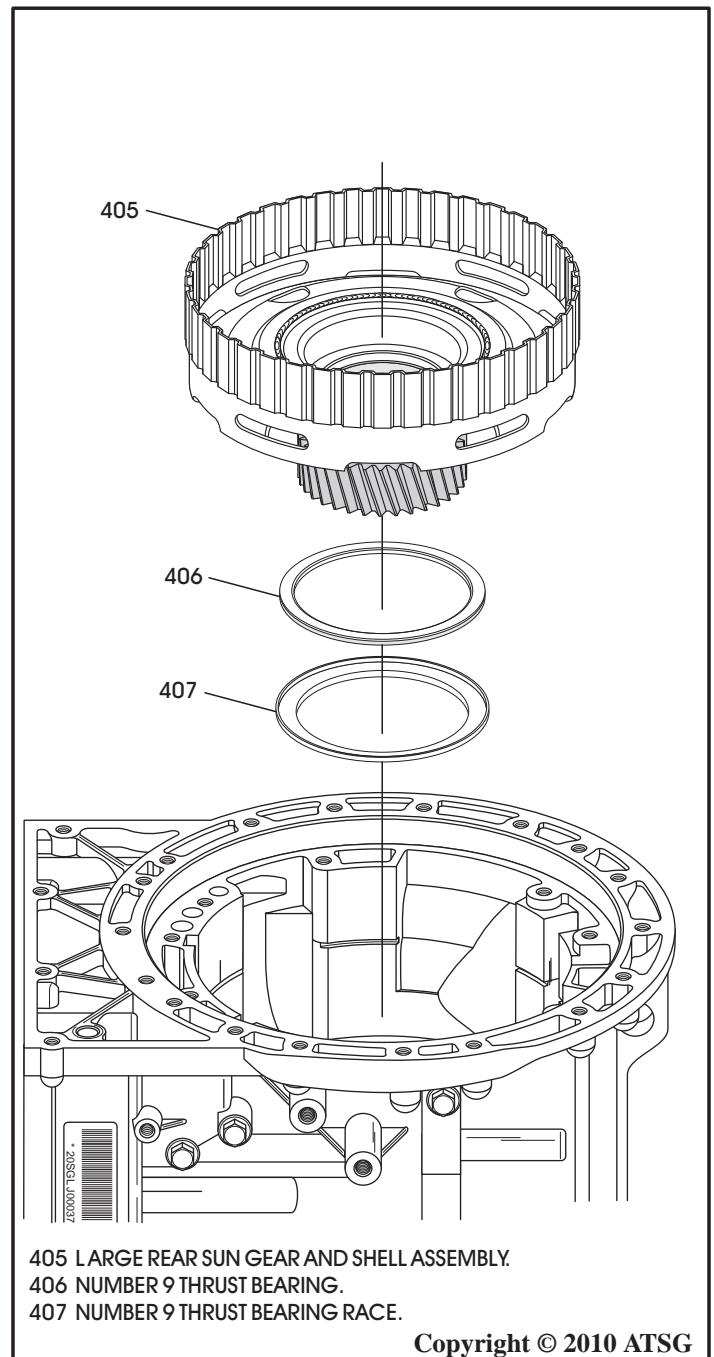

Figure 62
48. Remove large rear sun gear and shell assembly, as shown in Figure 62.
49. Remove the number 9 thrust bearing and thrust bearing race, as shown in Figure 62.